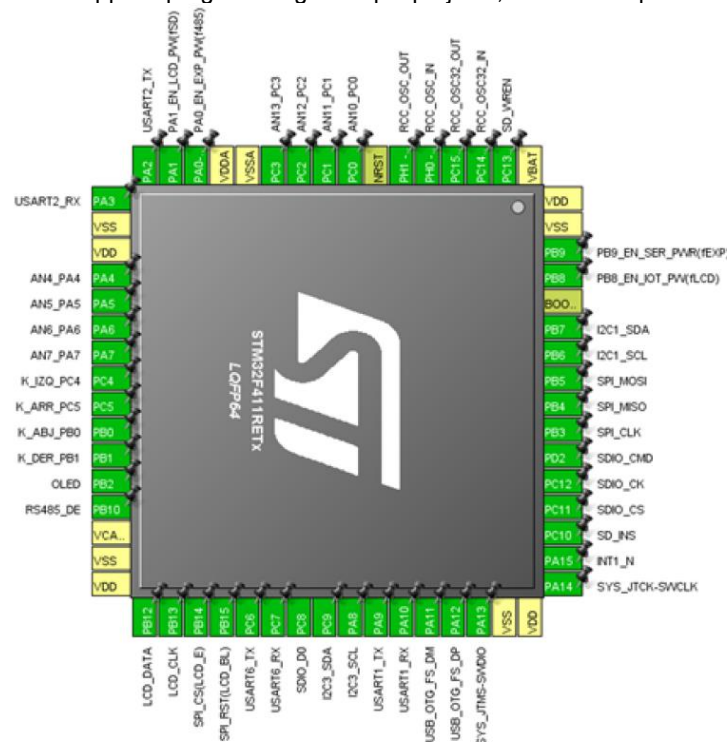

Figure 3 – Low-level configuration of the STM32F411RET unit using CubeMX32.
**2.b Programming model** The STM32 controller on CL3 can be programmed in C or C++ using compatible cross-compilers. Following examples in Section 3 will use either STM32CubeIDE [ref01], available for Windows, MacOS and Linux, or the older STM32 AC6 System Workbench [ref07] with integrated debuggers. To ease end-user development a higher-level sAPI-3C firmware library written in C (Section 3) is offered and integrated into the example projects, the simplest ones using bare-metal infinite loops and a more complex example running FreeRTOS, in communication with an external METEO peripheral. Programs are cross-compiled on a standard PC and downloaded to the board via a standard STLink/v2 4-pin port using a low cost USB STLink/v2 interface [ref03]. This interface also serves as OpenOCD debugger to ease developer work. ST thus offers a completely free toolchain using the arm-gcc cross compiler / linker and associated tools integrated in a user-friendly IDE.
The CL3 internal peripheral and basic modules are routed and preconfigured in the examples using the CubeMX32 [ref08] graphical tool provided by ST but can be user-altered if required. In Figure 3 the layout of pins and peripherals for the CL3 board is shown. The CubeMX32 is provided as a separate tool but was recently (2019) integrated within the STM32CubeIDE. The configuration files (.ioc) are part of the supplied programming example projects, and are adapted to the CL3 schematic of [ref03].